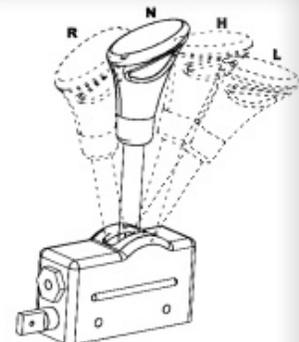

Figure 4
c. Each time you need to apply the brake to change the setting to go backwards apply the brake and move the lever to the "R" for the kart to go backwards note! Your kart is set up with 3 settings(See Fig.4):